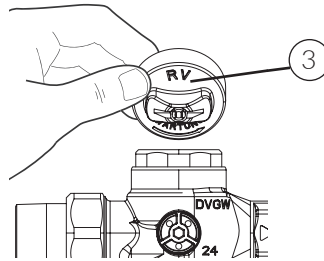

fig. 9
To replace the backflow preventer, turn the handle (1) clockwise again until it stops and remove the cap (3) on the opposite side (fig. 9). The cap is also the tool for removing the backflow preventer. Press the cap with the top side down onto the axis of the backflow preventer and unscrew the backflow preventer insert counterclockwise from the housing.